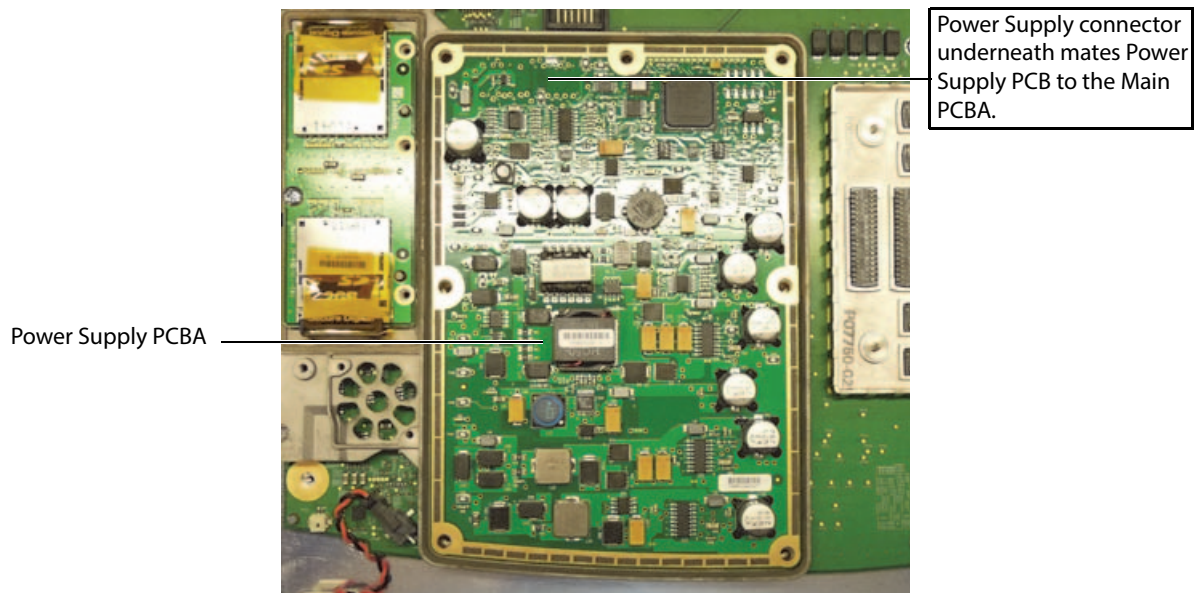

Figure 6.12 Power Supply PCBA
- 2 Gently lift the Power Supply PCBA away from the Main PCBA as shown in Figure 6.12. (Connector in upper left corner/removing the Power Supply PCB without the shield is difficult)